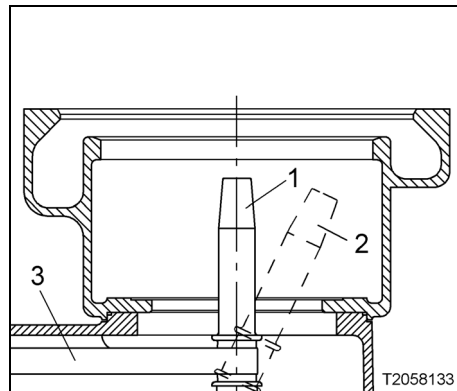

Fig. 256
Due to the design concept used, the spindle is at an inclined angle relative to the opposite side of the motor when the drive belt has not been fitted or tensioned (see Fig. 256, pos. 2)
The spindle is pulled into the centric axis when the belt is tensioned (see Fig. 256, pos 1)!